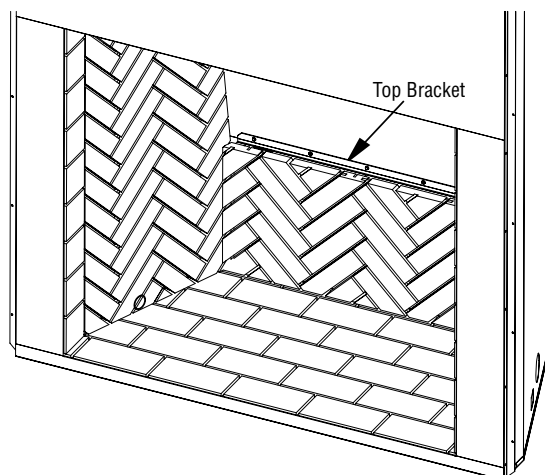

Figure 31 - Installing Rear Bottom Brick Panel
6. Install the rear bottom brick panel. Place the panel face side down on the hearth with the bottom of the panel toward the rear of the firebox and the top toward the front of the fireplace. Tilt the panel up toward the back of the firebox. Secure bracket at top of the brick panel to the rear firebox surround (**Figure 31**).